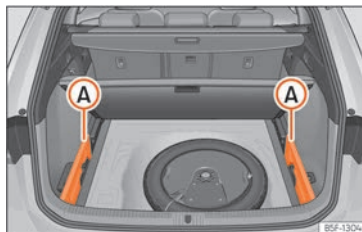

Fig. 179 In the boot: space to store the retractable shelf.
- Remove the left and right covers >>> Fig. 179 (A).